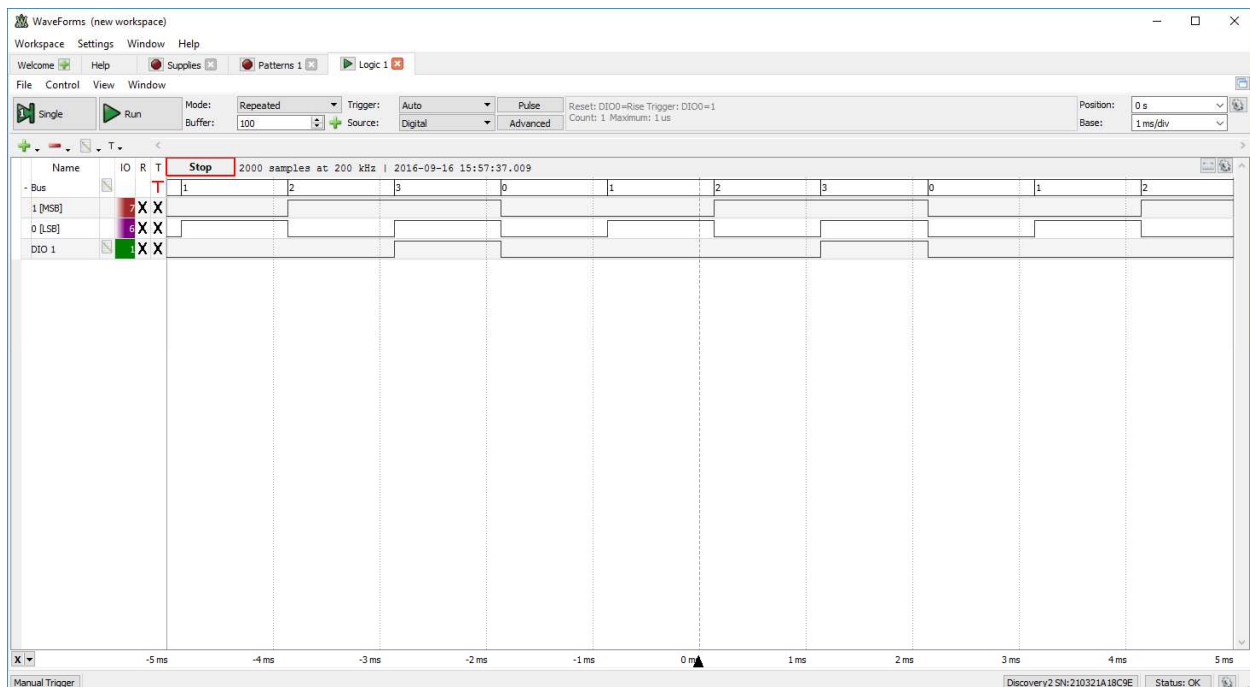

Figure 10: The Completed 7408 AND Gate Test
- Verify** that the AND gate is functioning by comparing your logic analyzer timing diagram against the AND truth table. The timing diagram should look similar to Figure 10.